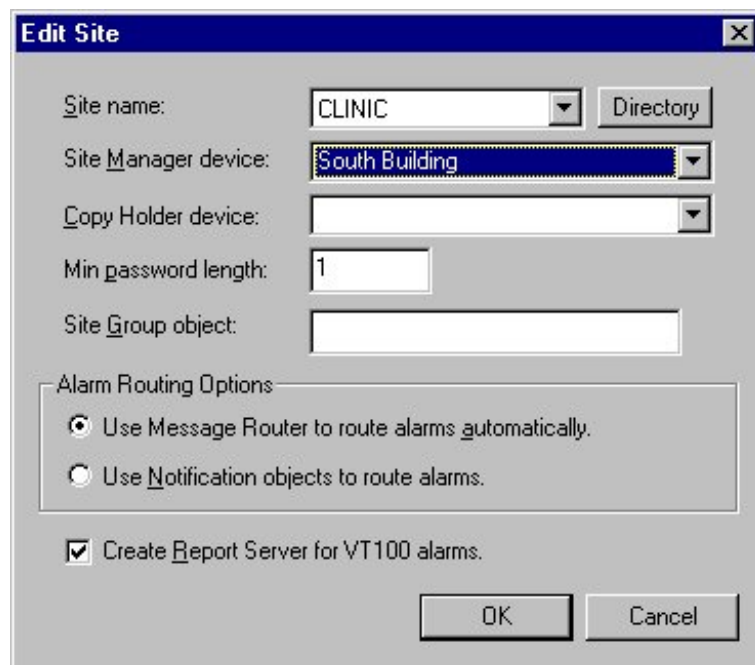

Figure 12-4: Edit Site Dialog Box
2. Select Edit Site from the Edit menu. The Edit Site dialog box appears (Figure 12-4).